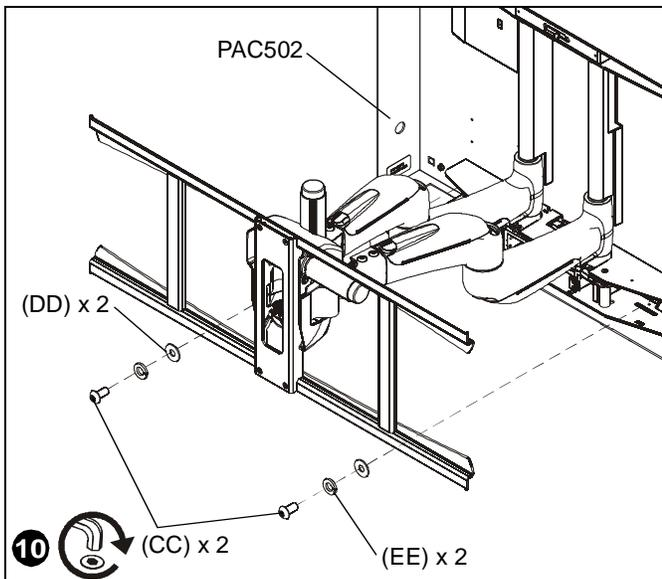

Figure 22
10. Secure bottom of PXR in PAC502 using two 5/16-18 x 5/8" button head cap screws (CC), two 5/16" split lock washers (EE), and two 1/4" flat washers (DD). (See Figure 22)